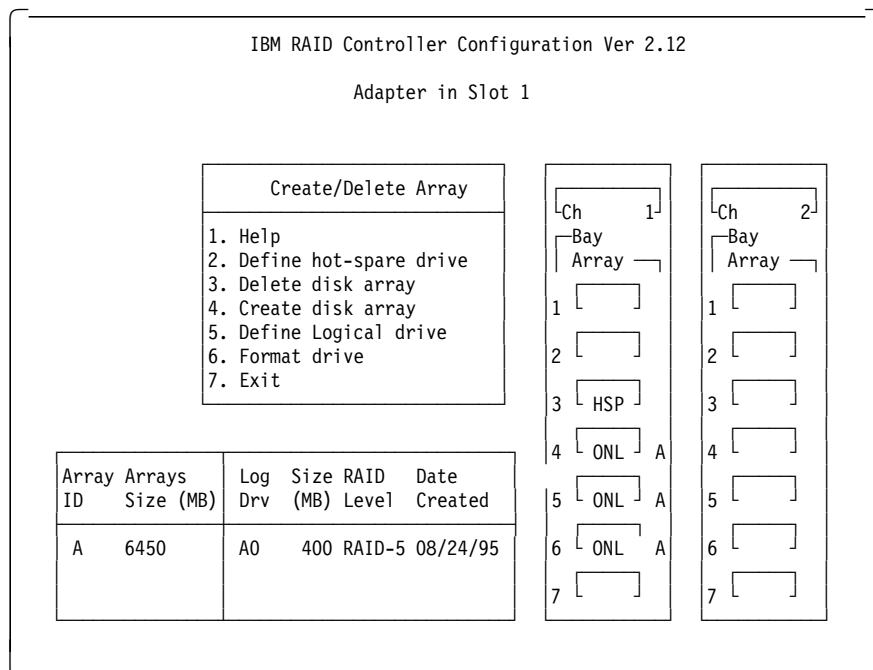

Figure 39. RAID Configuration Program - Size Definition
6. As shown in Figure 39, information about the new logical drive appears in the logical drive list.